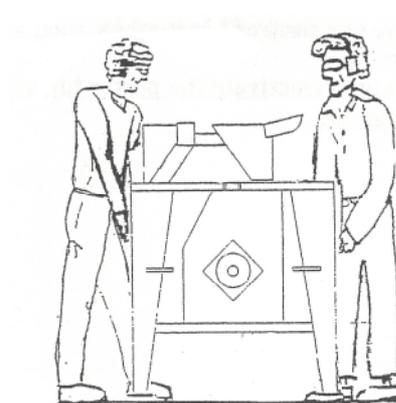

Fig.5
- b) By two operators; they have to hold it under the working table close to the machine supports (*refer fig 5*).